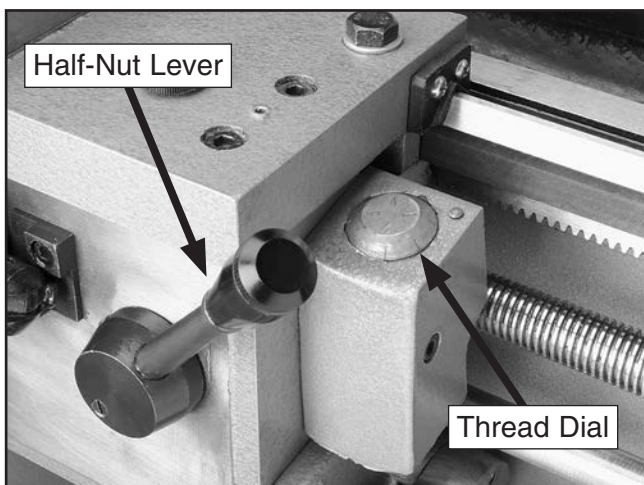

Figure 58. Thread dial and half-nut lever.
2. If the thread dial (**Figure 58**) is not engaged with the lead screw, use a 5mm hex wrench to loosen the thread dial and rotate it to engage the lead screw, then tighten the dial.
5. Turn **ON** the spindle to verify settings. Check to see that the lead screw is turning and verify that the carriage moves in the correct direction by engaging the half nut lever shown in **Figure 58**.